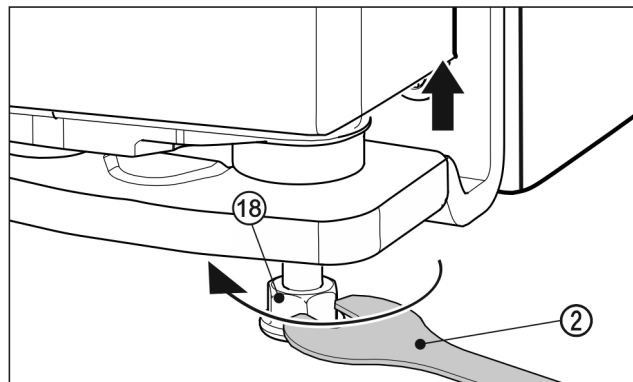

Fig. 23
- To lift the door, unscrew the adjusting foot Fig. 23 (18) clockwise using the supplied open-ended spanner Fig. 23 (2) until the foot makes contact with the floor. Then continue turning until the door is adjusted to the right height. When delivered, the bearing pin is completely screwed in.